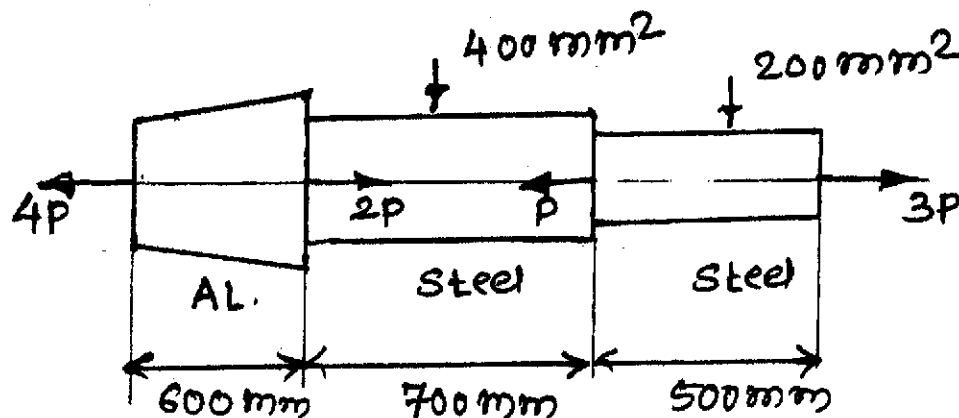

Fig. 3
- (c) A composite bar is subjected to forces as shown in Fig. 3. Small end diameter of tapering bar and big end diameter are 12.5 mm and 40 mm respectively. Determine magnitude of force P such that net deformation in the bar does not exceed 1.5 mm. Take :